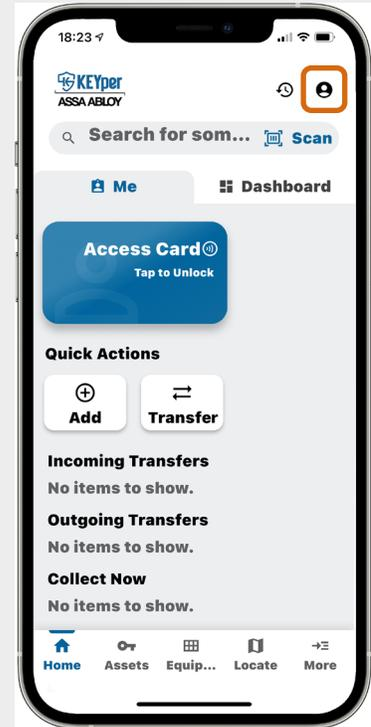

Fig. 24 – Home screen with Profile button indicated
1. In KEYper GO, select **Profile**  , shown in Fig. 24, and select your name from the menu that appears.